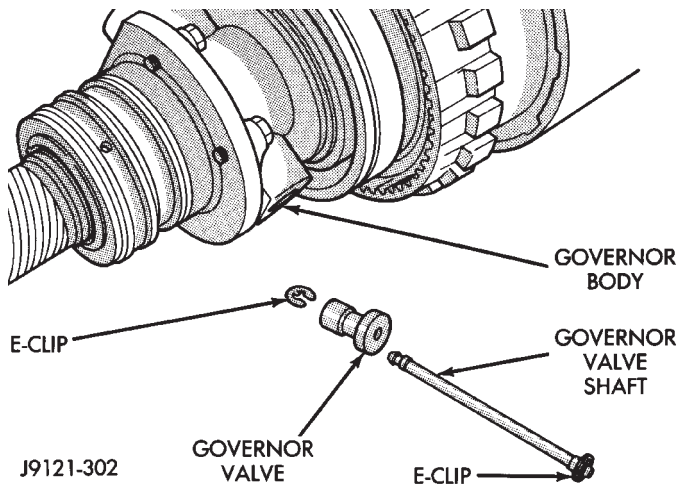

Fig. 16 Governor Valve And Shaft Removal/Installation
- (1) Remove E-clip from one end of governor valve shaft and remove shaft and valve (Fig. 16).